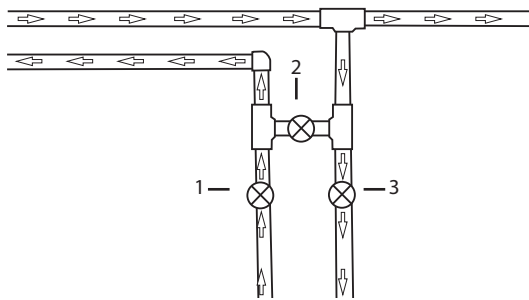

Figure 3
NOTE: It can be used by itself or with a manual bypass (Figure 3).
6. It is highly recommended that the bypass valve accessory be installed or to pipe in a three-valve bypass using manual globe valves as shown in Figure 3.